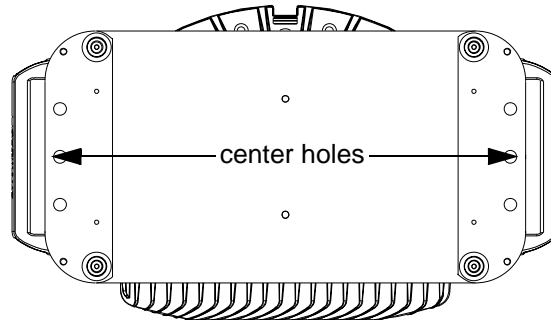

Figure 1.7 Attaching Mounting Hardware
1. Lay the fixture on its side and attach the mounting hardware the center holes on the base. Refer to Figure 1.7.